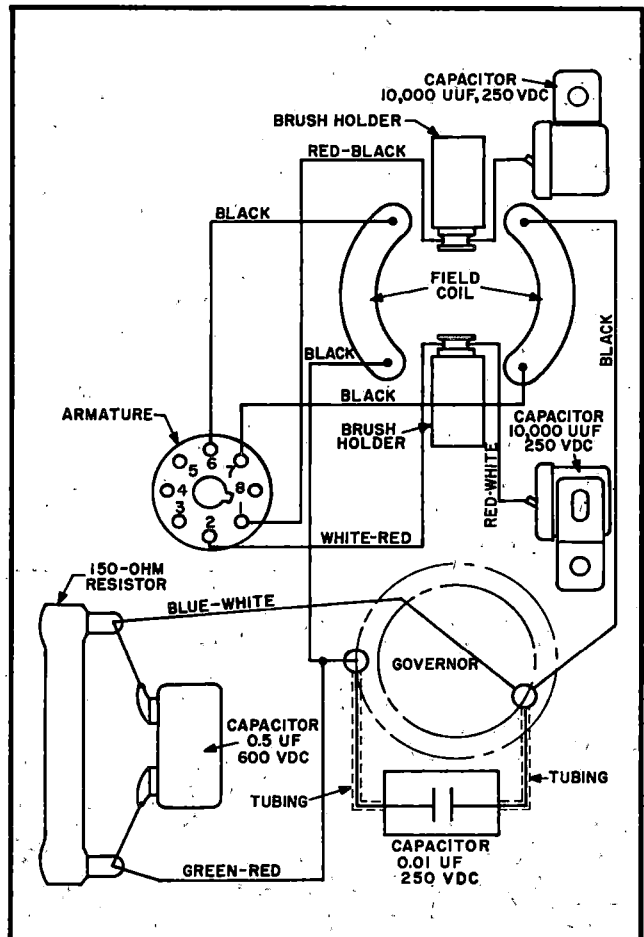

Figure 5. Drive Motor Wiring Diagram —
- a. Apply a light coating of grease to the bearings (47 and 48) and to the drive gear (46) during re-assembly.
- b. Assemble motor field (52) into housing (55). Lubricate bearings (47 and 48), step a, above, and assemble them to armature (49). Slip two loading springs (50) onto commutator end of armature shaft with prongs against the bearing (48). Insert this group into front housing (55) until the bearing seats in the bearing recess.
- c. Install rear housing (42) over ball bearing (47) on armature shaft and flush against front housing. Holes for screws (43) must line up with tapped holes in field coil retaining studs, and the tapped bosses on rear housing and front housing, for screws (19), must be aligned. Secure the rear housing. Install drive gear (46) to end of armature shaft with pin (45). Lubricate gear (46).
- d. Remove flexible coupling from gear housing assembly (11), and install gear housing assembly to rear housing with screws (12 and 14) and lock washers (13 and 15). Note that binding head screw (12) is installed below flexible coupling to allow clearance for drive chain around sprocket. It may be necessary to rotate gear housing shaft until worm gears engage, thus permitting gear housing to seat fully. Armature shaft must turn freely and when pressed inward and released, it must spring back due to the action of the loading springs (50).
- f. Install all electrical components, except the governor, making wiring connections as illustrated in figure 5 (CB, CBM, CBRM) or figure 39 (614CD).